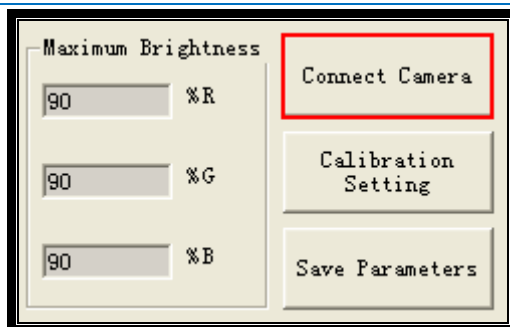

Fig.3-11
Step10: Click the “Connect Camera” button, the software will connect the camera automatically, as shown in Fig.3-11.